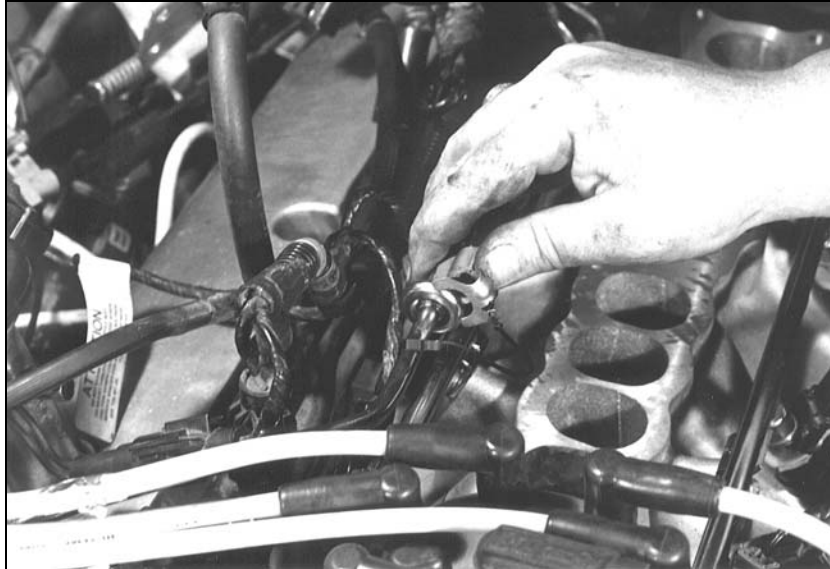

Figure 20
16. Reconnect the fuel lines, ensuring the connections snap together tightly. Reattach the safety clamps to the lines. Double check to ensure that all lines are properly connected and secure. See Figure 20.